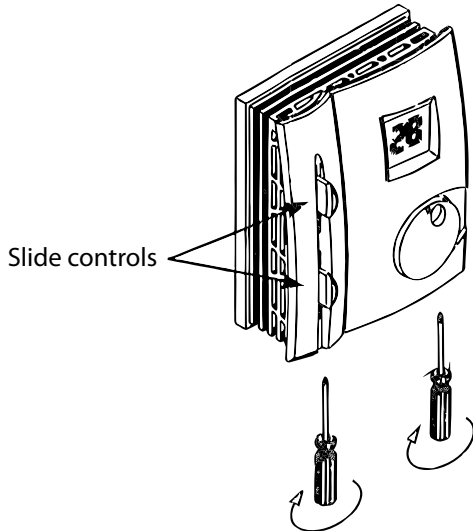

Figure 5
2. Use a screwdriver to loosen the screws at the bottom of the humidistat as shown in Figure 5.